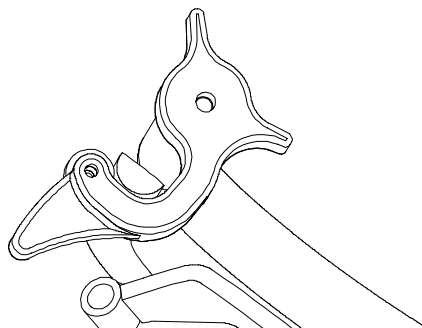

FIGURE 14
1. With rear of machine still on jack stands and engine running at full throttle, disengage the park brake and move the speed control lever to the midway position. Move the respective drive lever upward until it reaches the **neutral** position and engage neutral lock latches. See Figure 14. If the tire rotates in either direction, the length of the drive lever link will need to be adjusted.